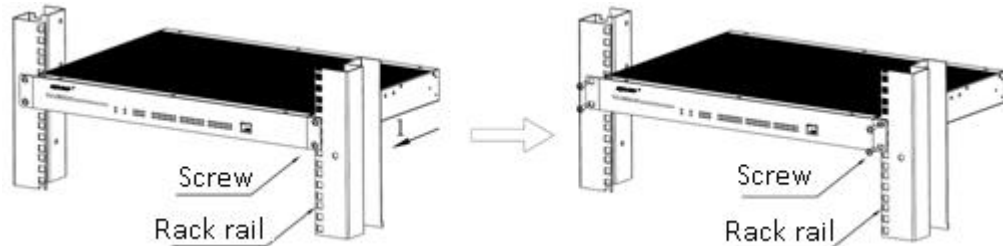

Figure 5: Dismounting
Step 1: Unscrew 4 screws fastening the device and the rack as shown in Figure 5.